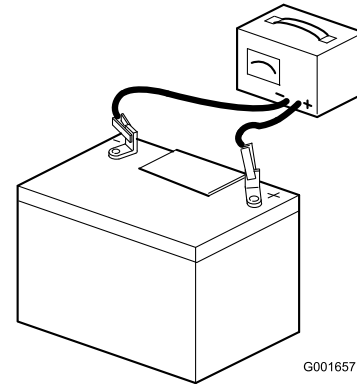

Figure 39
2. Connect a 3 to 4 amp battery charger to the battery posts (Figure 39). Charge the battery at a rate of 3 to 4 amperes for 4 to 8 hours.